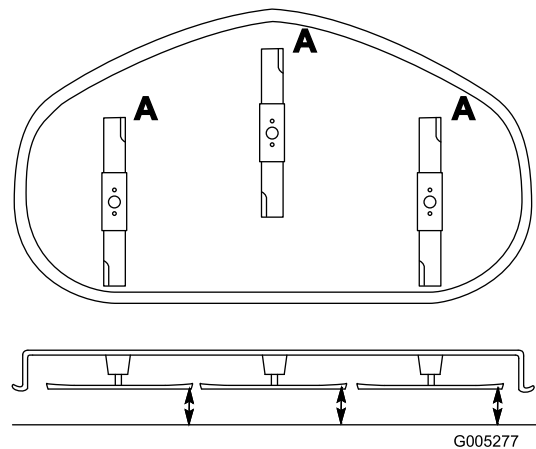

Figure 35
1. Rotate the blades until the ends face forward and backward (Figure 35). Measure from a level surface to the cutting edge, position 1.5, of the blades (Figure 35). Note this dimension.